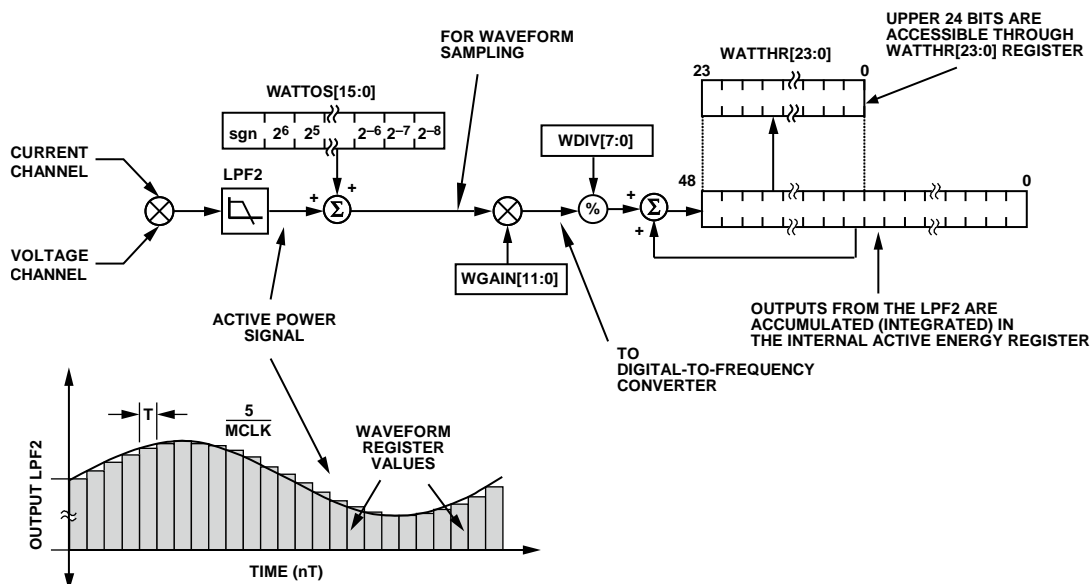

Figure 66. Active Energy Calculation
Figure 66 shows the signal processing chain for the active power calculation in the ADE5166/ADE5169/ADE5566/ADE5569. As explained previously, the active power is calculated by filtering the output of the multiplier with a low-pass filter. Note that, when reading the waveform samples from the output of LPF2, the gain of the active energy can be adjusted by using the multiplier and writing a twos complement, 12-bit word to the watt gain register (WGAIN, Address 0x1D[11:0]). Equation 10 shows how the gain adjustment is related to the contents of the watt gain register.
The ADE5166/ADE5169/ADE5566/ADE5569 also incorporate an active power offset register (WATTOS, Address 0x20[15:0]). It is a signed, twos complement, 16-bit register that can be used to remove offsets in the active power calculation (see Figure 66). An offset can exist in the power calculation due to crosstalk between channels on the PCB or in the IC itself. The offset calibration allows the contents of the active power register to be maintained at 0 when no power is being consumed.
The discrete time sample period (T) for the accumulation register in the ADE5166/ADE5169/ADE5566/ADE5569 is 1.22 μ s ($5/MCLK$). In addition to calculating the energy, this integration removes any sinusoidal components that may be in the active power signal. Figure 66 shows this discrete time integration or
The output of the multiplier is divided by the value in the WDIV register (Address 0x24). If the value in the WDIV register is equal to 0, the internal active energy register is divided by 1. WDIV is an 8-bit, unsigned register. After dividing by WDIV, the active energy is accumulated in a 49-bit internal energy accumulation register. The upper 24 bits of this register are accessible through a read to the active energy register (WATTHR, Address 0x01[23:0]). A read to the RWATTHR register (Address 0x02) returns the contents of the WATTHR register, and the upper 24 bits of the internal register are cleared. As shown in Figure 66, the active power signal is accumulated in an internal 49-bit, signed register. The active power signal can be read from the waveform register by setting the WAVMODE register (Address 0x0D) and setting the WFSM bit (Bit 5) in the Interrupt Enable 3 SFR (MIRQENH, Address 0xDB). Like the current and voltage channel waveform sampling modes, the waveform data is available at sample rates of 25.6 kSPS, 12.8 kSPS, 6.4 kSPS, and 3.2 kSPS.